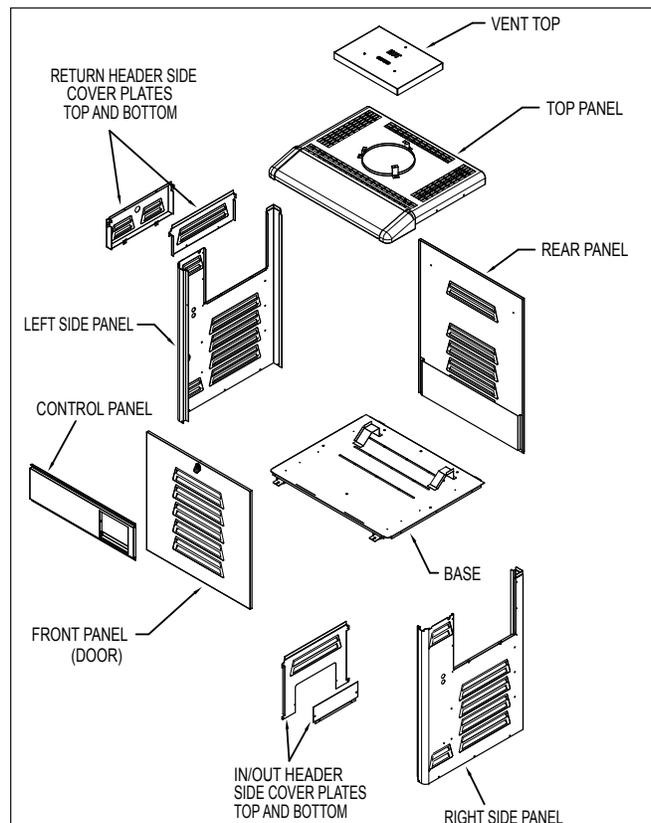

Figure 10. Legacy Model WLRZ Panel Identification
1. For an existing installation, drain the heater by removing the two (2) drain plugs on the inlet/outlet header and the drain plug on the return header.
3. Remove the I/O header side cover plates, top and bottom. See Figure 10.
4. Remove the return header side cover plates, top and bottom. See Figure 10.